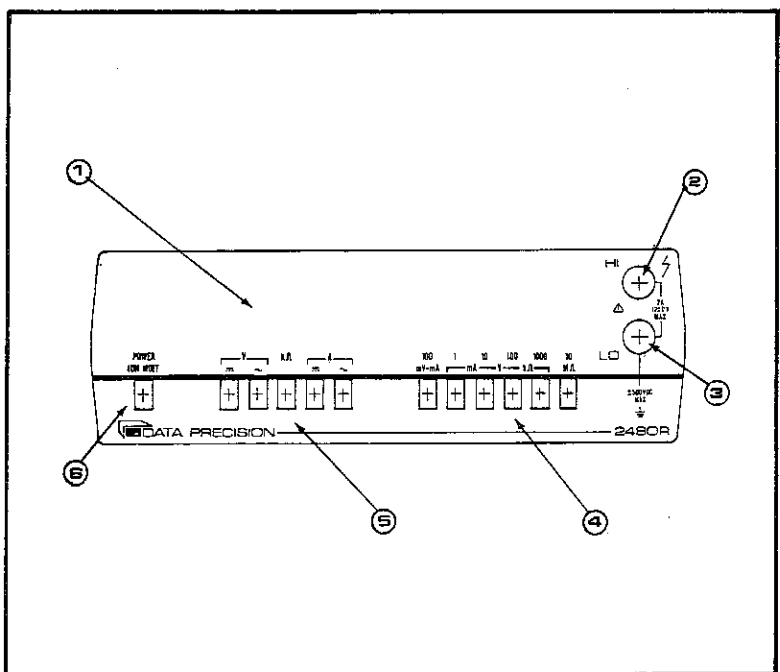

Figure 2-2 — Model 2480/2480R DMM Front Panel Features
Figure 2-2 and Table 2-1 identify and describe operating features at the front panel of the standard Model 2480/2480R Digital Multimeter.
Table 2-1 (Figure 2-2)
b. Turn on power by operating the switch (Figure 2-2, item 6).
c. Input terminals (Figure 2-2, Items 2 and 3) are used as the front panel connector pair to measure voltages up to 1000 volts, currents up to 2 amperes and resistances up to 20 Megohms.
Select one of 8 measuring functions by operating the appropriate push button (Figure 2-2, Item 5). The push buttons are interlocked so that operating any one will release any other one.